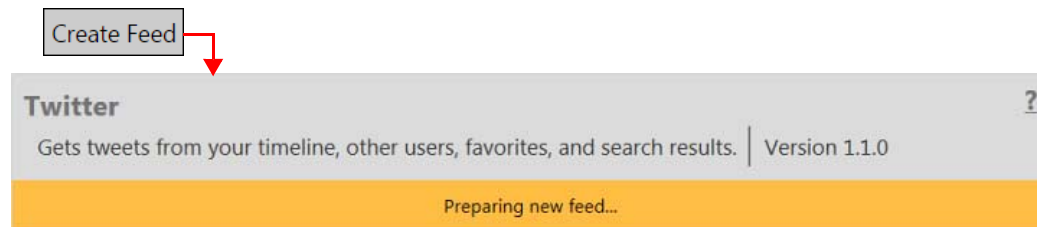

FIG. 182 XPort - Creating new Twitter feed
4. In the *Create New Feed* page, click **Create Feed**. Xport will indicate that a new feed is being prepared (FIG. 182):